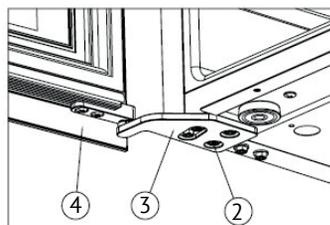

Figure 5
➔ Install the right upper hinge ③, and screw tight the M5*16 screws ② (Figure 5).